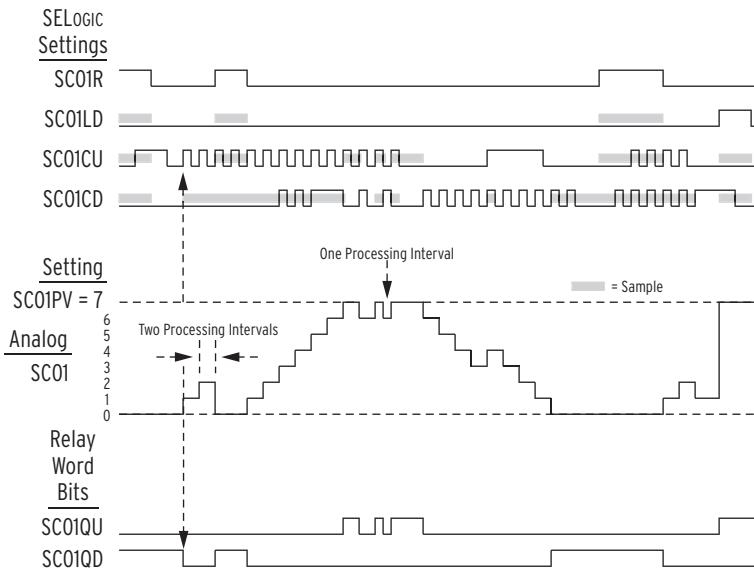

Figure 4.61 Example of the Effects of the Input Precedence
Figure 4.61 shows an example of the effects of the input precedence, with SC01PV set to 7. The vertical dashed line indicates the relationship between SC01CU first being seen as a rising edge and the resultant outputs. This indicates that there is no intentional lag between the control input asserting and the count value changing. Most of the pulses in the diagram are on an every second processing interval. The “one processing interval” valley is an example where the CD and CU pulses are only separated by one processing interval.
- When input SC01CU has a rising edge, a rising edge on SC01CD is ignored (unless SC01 is already at the maximum value SC01PV (= 7), in which case SC01CU is ignored, and the SC01CD is processed). An example of this exception appears in *Figure 4.61*, just before the “one processing interval” notation.